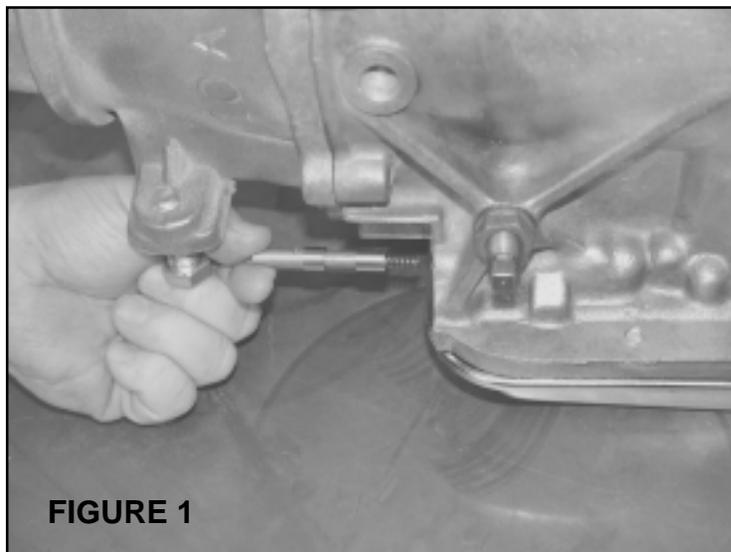

FIGURE 1
5.) Install the Trans-brake valve and spring into the modulator of the transmission case as shown in **Figure 1**.